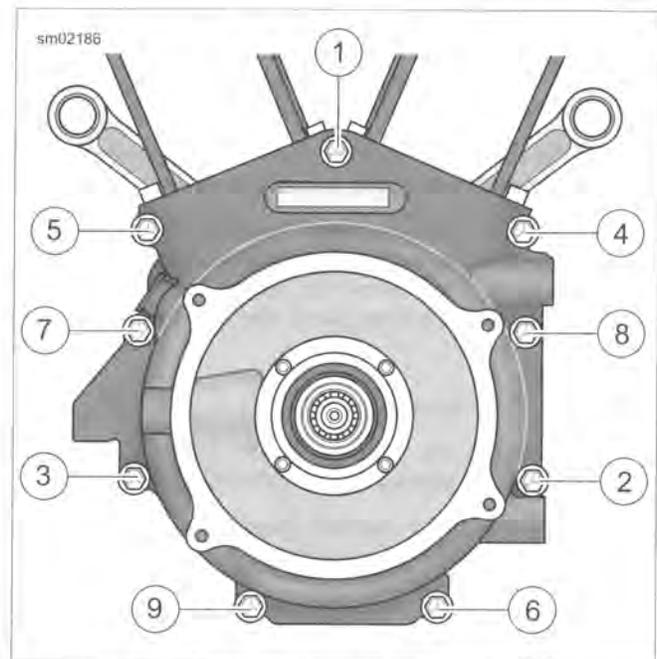

Figure 3-138. Tightening Crankcase Bolts
- See Figure 3-138. Start the nine crankcase bolts and tighten in the following sequence.